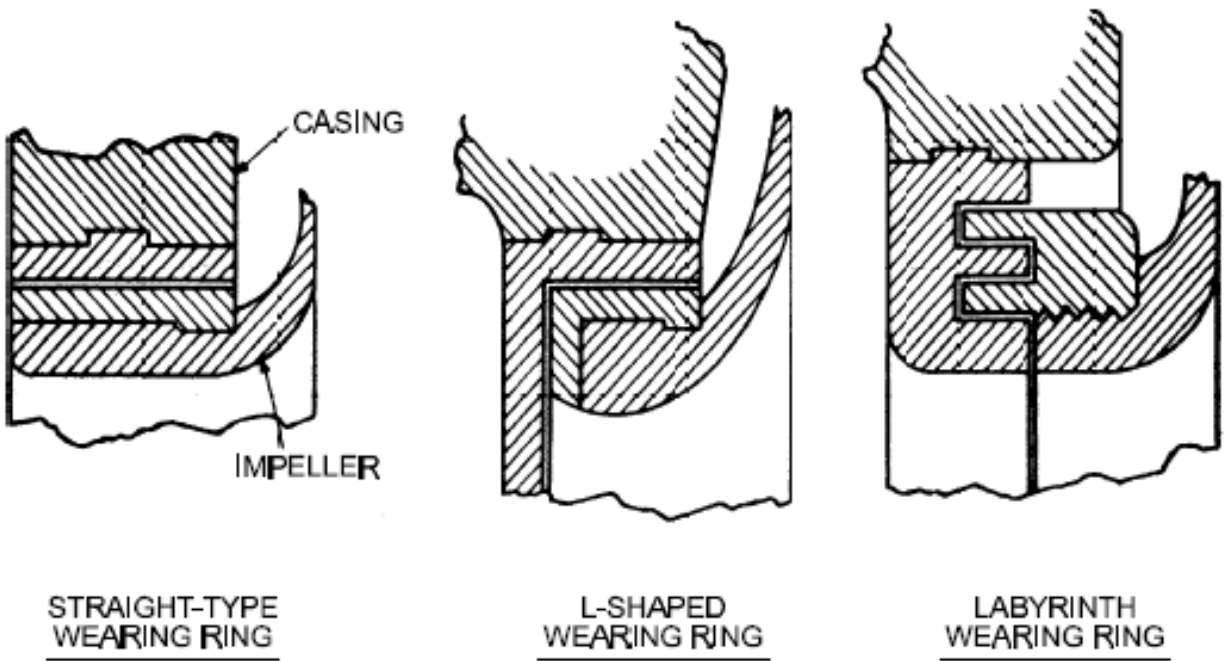

Figure 5
**3.2.1.6 WEARING OR SEALING RINGS.** Each year, inspect the wearing or sealing rings that seal the discharge water from suction water in rotating pumps. These are not perfect seals and do allow some leakage. Do not allow this leakage to become excessive because of worn rings, or the pump efficiency will be impaired. Three types of wearing rings are shown in Figure 5.